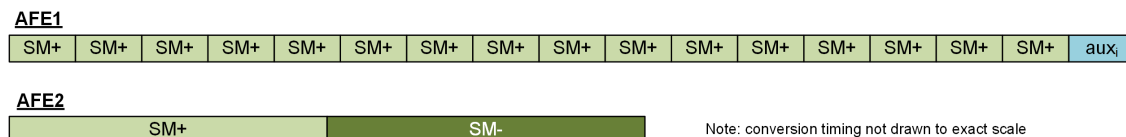

Figure 31: Sequencer Illustration for AFE1 and AFE2
The fast reaction of the bridge sensor input is achieved through AFE1, which runs at low resolution (10 bit) and highest update rate. AFE2 runs on high resolution (SM+/SM- sequencer, 16bit) and a slower update rate according to Table 26. Figure 31 illustrates the sequence of AFE1 and AFE2 measurements.
- The aux_i cycle in the sequencer becomes automatically activated if T1 or PTAT are selected. If no temperature sensor is selected, the aux_i cycle shown in Figure 31 is removed.